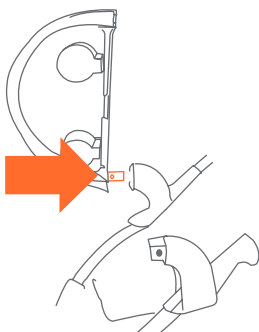

Fig. 10a
- 10) • To attach the child tray: Push the angled tray onto the post at the end of the right armrest, until locked into place (Fig. 10a).